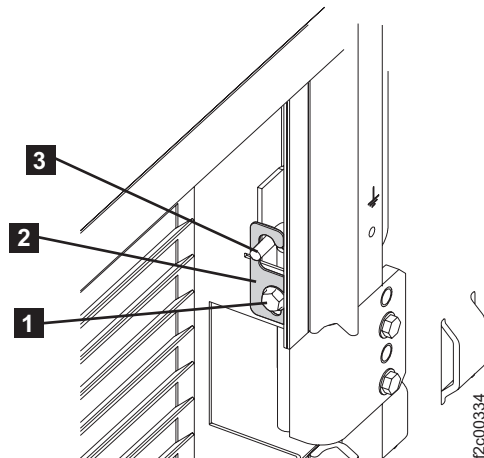

Figure 10. Removing rear left cover on Rack-1
4. Remove the left rear cover from Rack-1. Refer to Figure 10 on page 17.